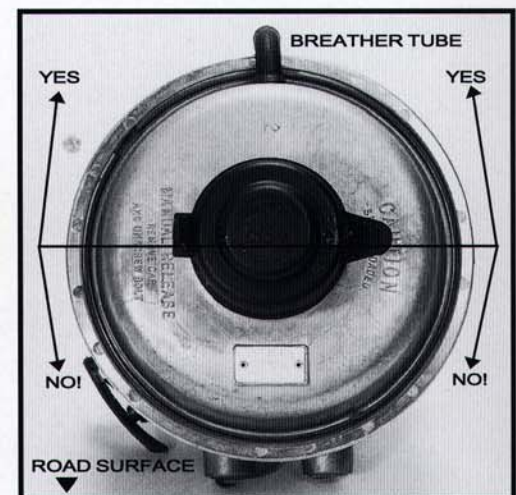

Fig. 5
- (B) Ensure the **BREATHER TUBE** is securely engaged a minimum of 1/2 inch into the rubber elbows (Fig. 4) and glued together with a high quality rubber cement. These units must be mounted with the **BREATHER TUBE** in the upper half of the non-pressure chamber facing away from the road surface (Fig. 5). Failure to comply with these installation instructions will void the MGM warranty without remedy.
IMPORTANT - When installing any MGM spring brake equipped with an external breather tube it is mandatory to position the breather tube in the upper half of the chamber facing away from the road surface (Fig. 5). Failure to comply will void the MGM warranty on these models.
- (f) Make sure new single (piggyback) spring brake is fully released as outlined in Section 2 of this manual. Position unit over service chamber so diaphragm is positioned in bottom recess of chamber (Fig. 11) and, with very close attention taken to assure all mating parts are aligned straight and the air lines are positioned to mate with the vehicle air supply lines (Fig. 5), replace the service clamp ring (Fig. 9).